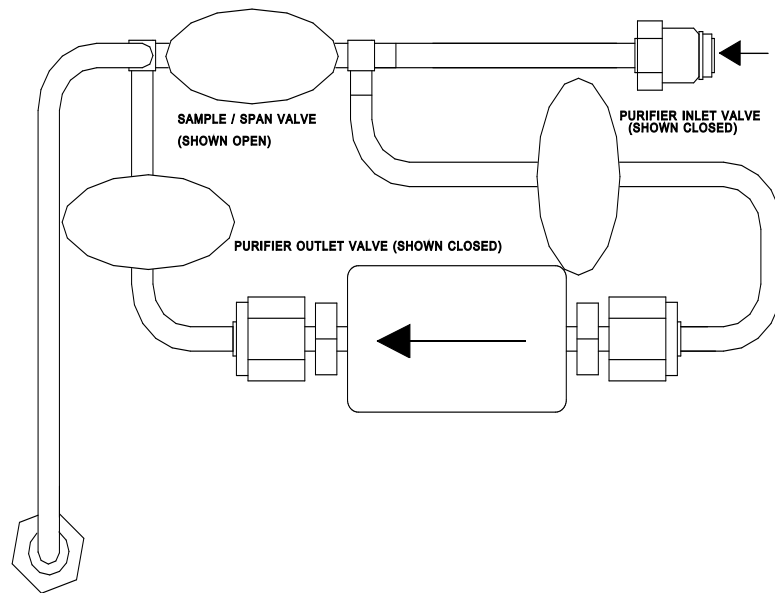

Figure 51: Valve Handle Positions When Changing the Gas Purifier
1. The analyzer must be in the process measurement mode by placing the valve handles in the positions as shown in Figure 51: Valve Handle Positions When Changing the Gas Purifier
5. Install the purifier with the flow direction arrow as shown in Figure 51. It may be necessary to slightly spring the calibration system plumbing to insert the gas purifier.